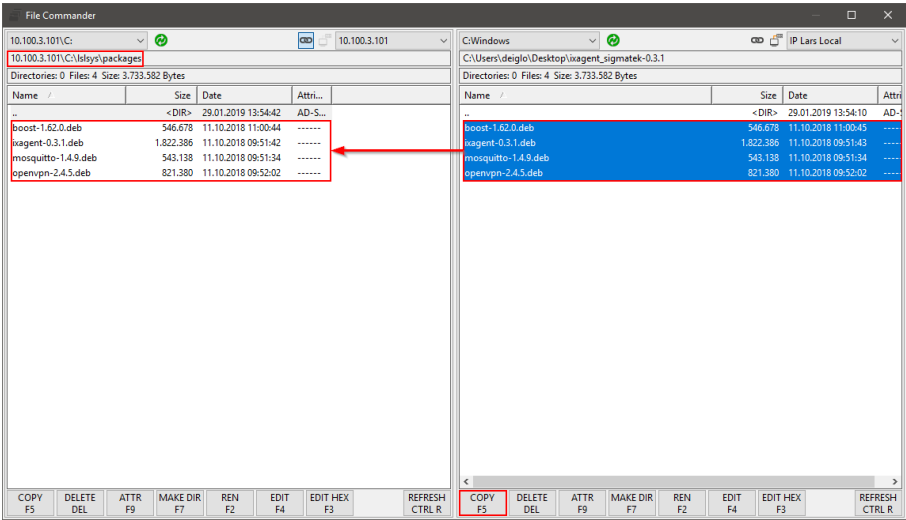

Figure 4.17 Copying the packages to the machine.
- b. Copy the RAE to the packages folder. To do this, navigate to the package on the right side of the File Commander and click on "COPY" (Figure 4.17).